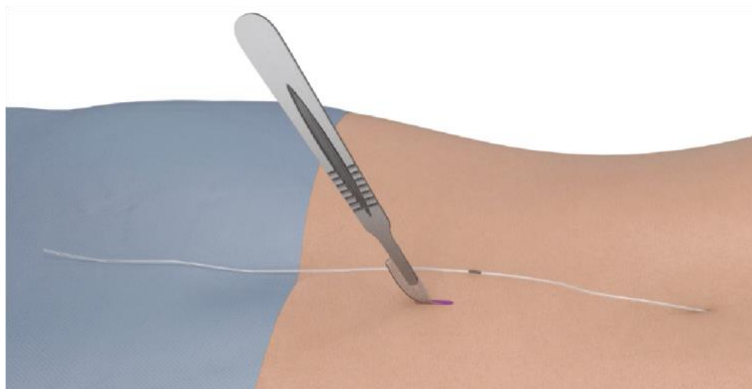

Figure 4
3. Make an incision, about 2 cm. (Figure 4)